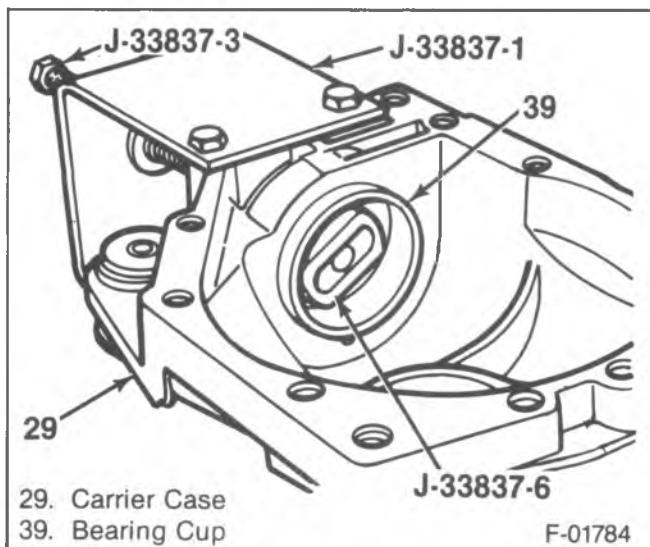

Figure 75—Removing the Inner Bearing Cup
- Use J-22912-01 to remove the bearing (39) from the pinion gear (37).
- 23. Bearing and cup (41) and seal (42), using J-33837-1, J-33837-3, and J-33837-6.
- 24. Inner bearing cup by pushing it out using J-33837-1, J-33837-3, and J-33837-6 (figure 75).